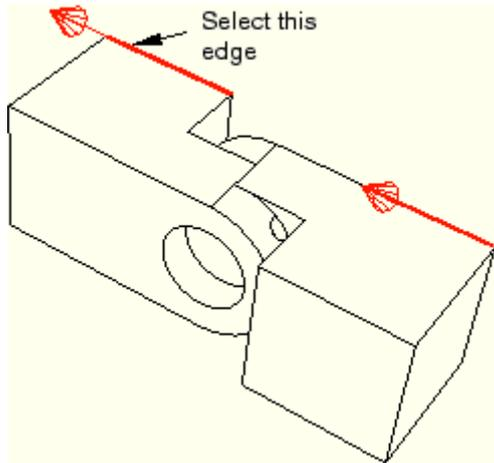

Figure C-31 Select a straight edge on the fixed instance.
13. Select the corresponding edge of the hinge piece with the lubrication hole, as shown in Figure C-31.